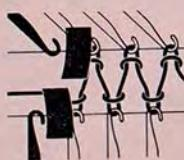

Fig. 69
- b) Increase 2 stitches at left. Same procedure as for right, but at left, fig. 69.